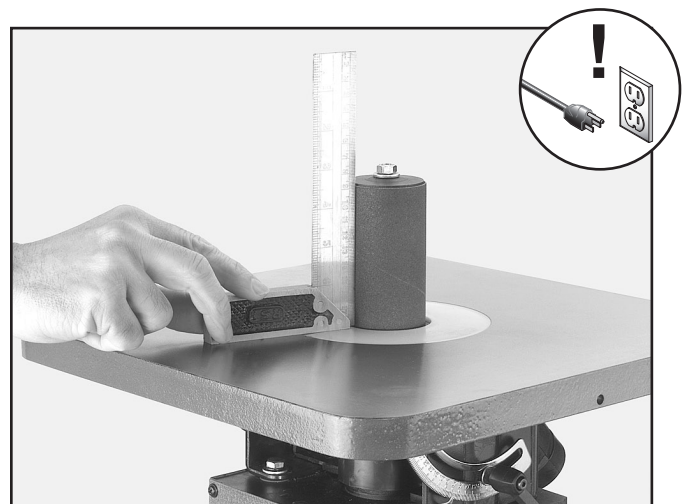

Figure 10. Squaring the table and spindle.
5. If the table is not 90° from the spindle, adjust the table stop bolt to allow the table to move more as shown in **Figure 10**.